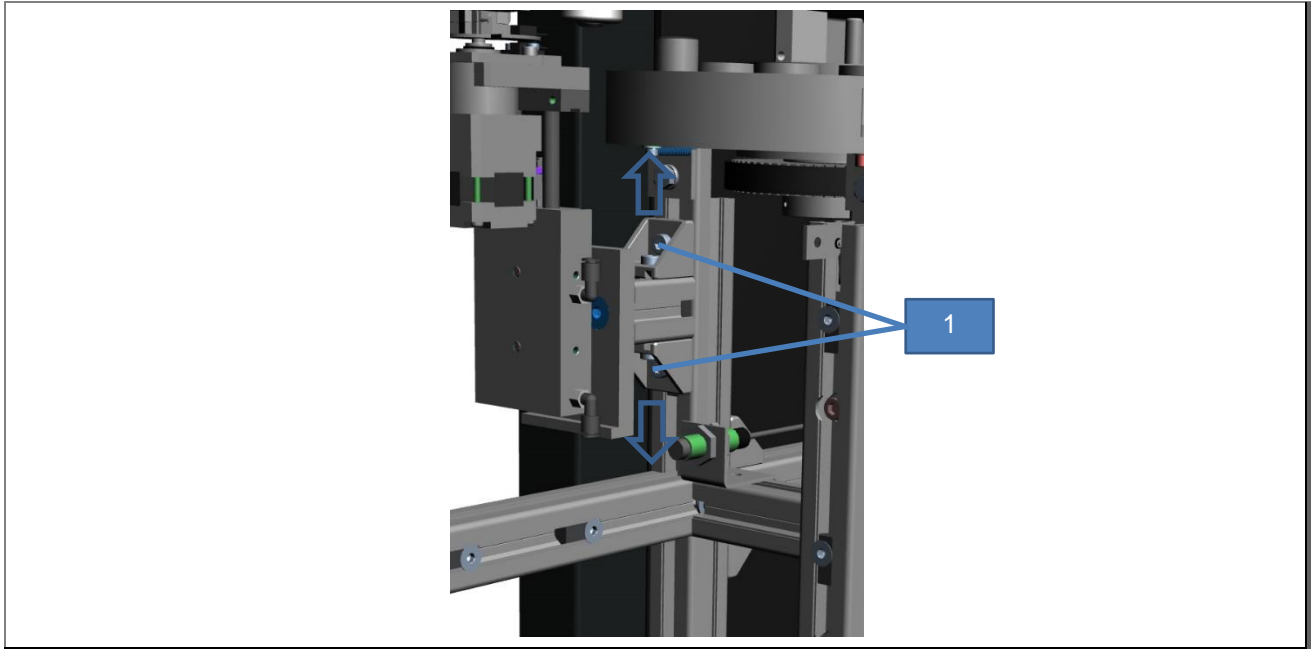

Fig. 13: Adjusting the gripper arm height
2. Using the manual mode button, switch the gripper arm position through until the gripper arm has reached the “Chain” crucible collection position (see Fig. 13: Adjusting the gripper arm height).
3. Release the screws (1) (see Fig. 13: Adjusting the gripper arm height).
5. Tighten the screws (1) again (see Fig. 13: Adjusting the gripper arm height).